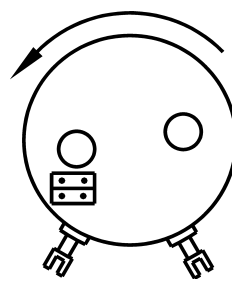

Figure 6
- Jumper placed "horizontally" for counter-clockwise direction (see Figure 6)